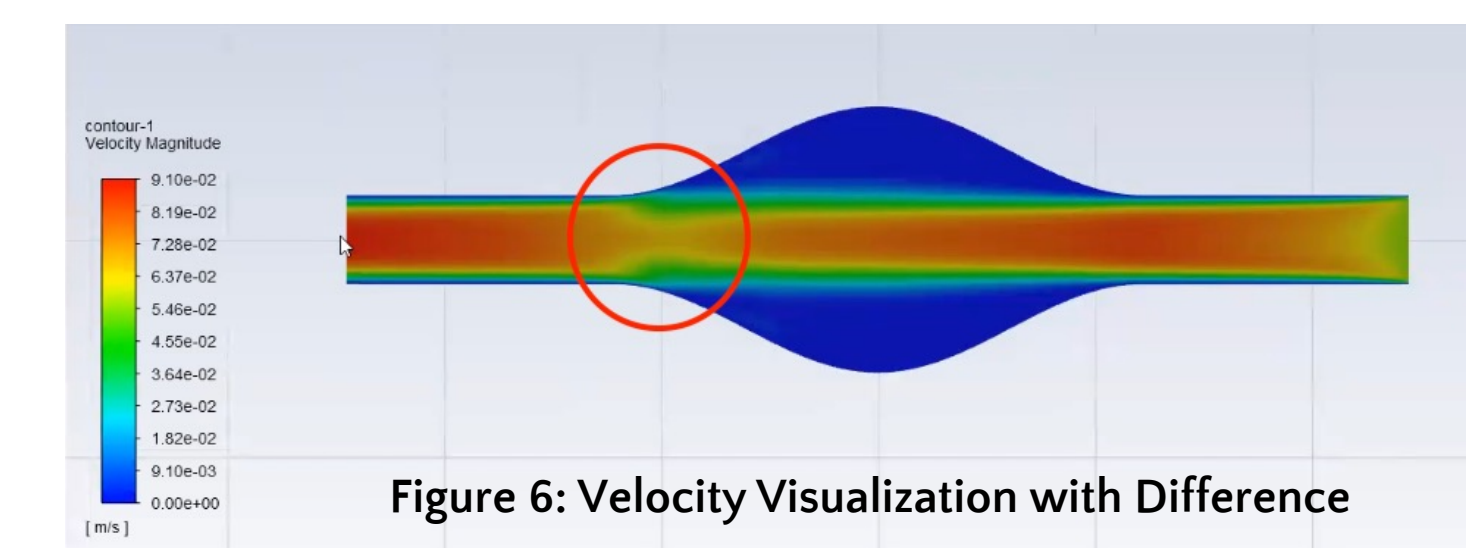

Figure 6: Velocity Visualization with Difference
(1) The velocity is different at the end of the abdominal aortic aneurysm as shown in Fig. 6.